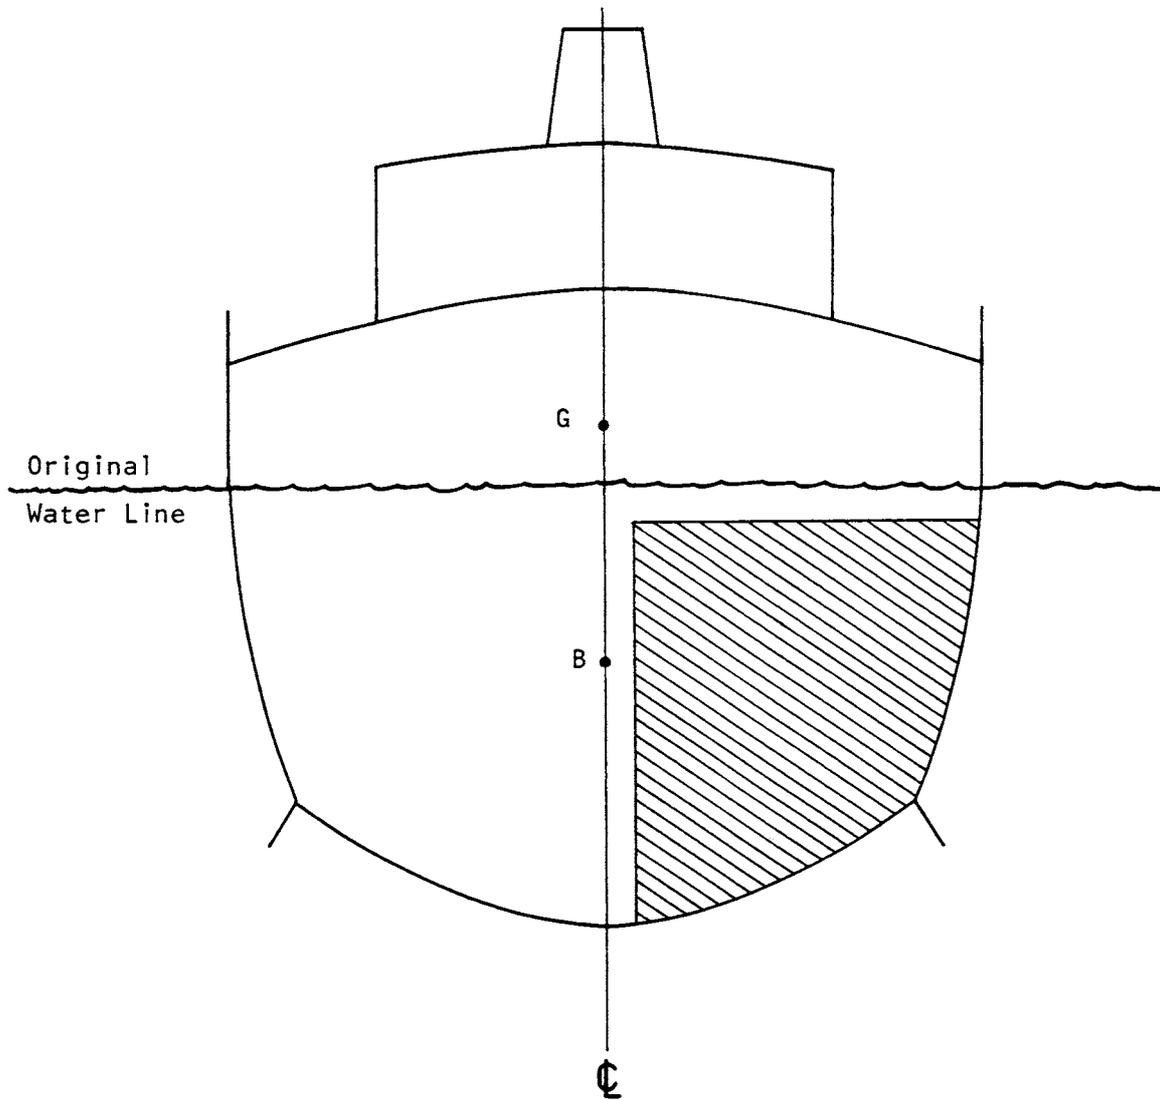
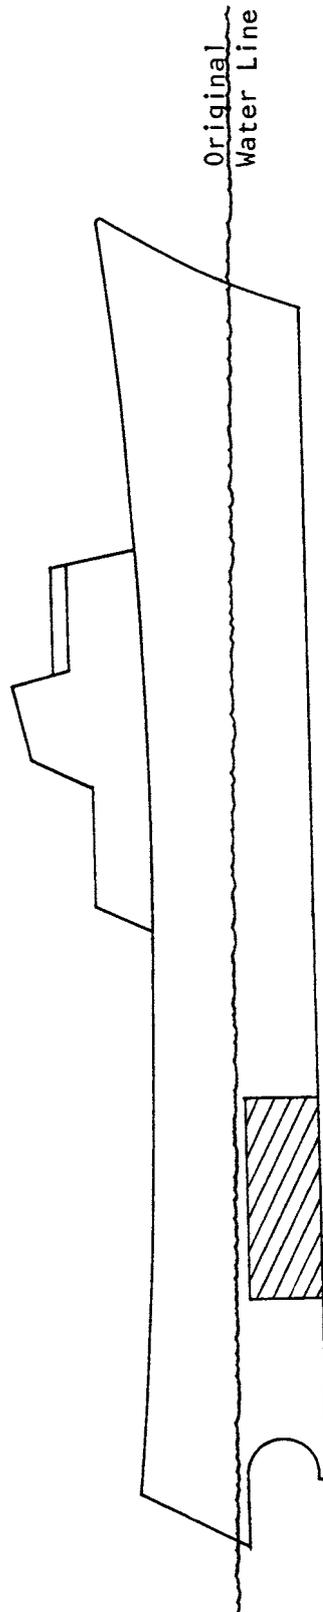

Figure 1
Figure 2
3. A vessel is bilged in the after port side fuel oil tank, shown by the shaded portions in Figure 1 and Figure 2 (provided at the end of these questions).
Detach the sketches (Figures 1 and 2) and on them show the following: